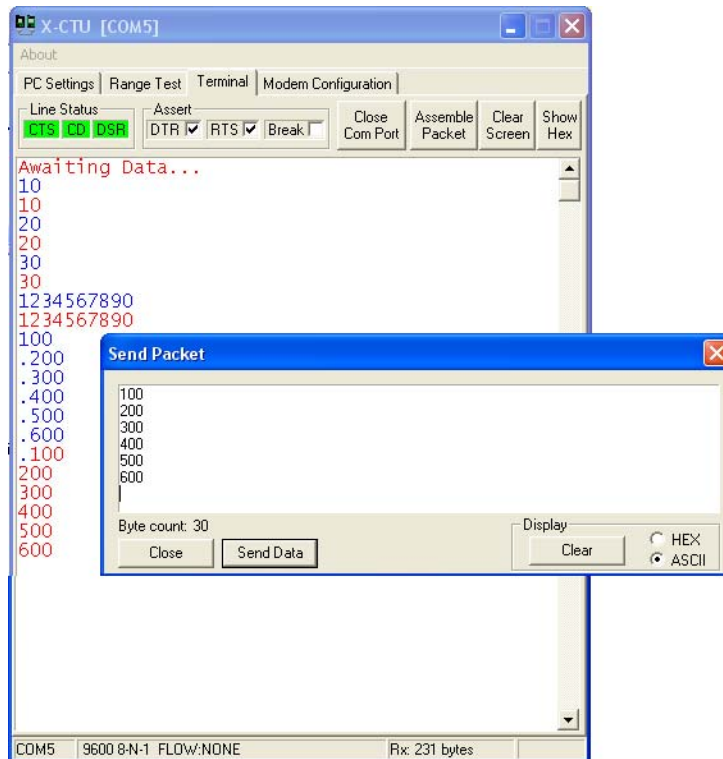

Figure 4-13: Receiving Simple Decimal Values
- ✓ Test sending decimal value in the X-CTU terminal window and the Send  Socket window using carriage returns between values as shown in Figure 4-13. Note that no data is lost due to the speed of the Propeller and the buffering of the drivers.